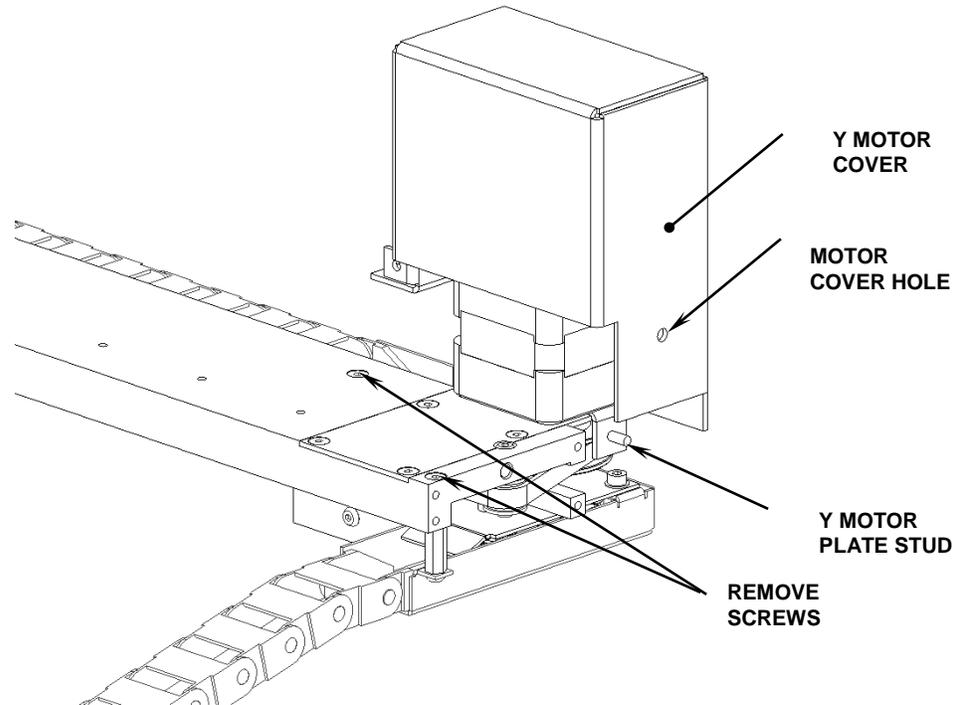

Figure 8-4: Y Axis Support Screws
5. Remove the two screws indicated in Figure 8-4.